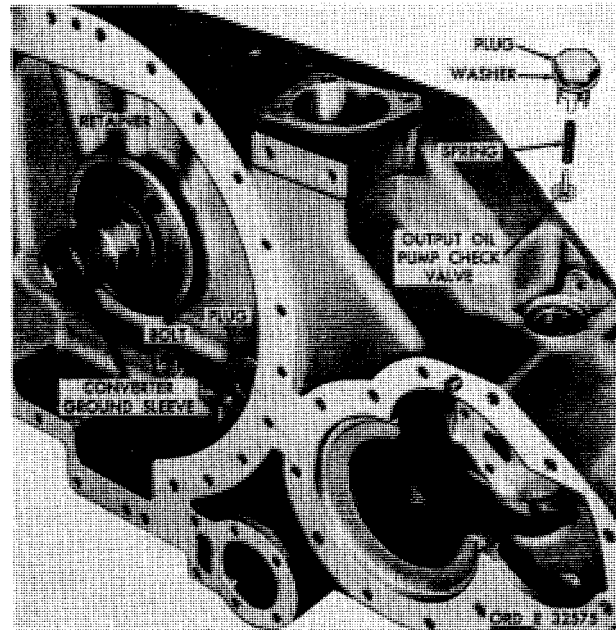

Figure 156. Torque converter housing and related parts
a. Using a 1-1/2-inch wrench, remove output oil pump check valve plug, washer, valve and spring (fig. 156).
b. Using a 9/16-inch wrench, remove five self-locking bolts retaining seal ring retainer (fig. 156). Remove the retainer.
c. Do not remove the torque converter ground sleeve unless replacement is necessary (fig. 156). If necessary, press the sleeve from the housing toward the front side.
a. Install any plugs in housing which were removed to aid in the cleaning of the torque converter housing (fig. 156).
b. If the converter ground sleeve was removed, install a new replacement ground sleeve (fig. 156). Press sleeve into housing until firmly seated, being sure that the bolt holes in the housing and sleeve are properly indexed.
c. Install the seal ring retainer and secure with five 3/8-16 self-locking bolts (fig. 156). Torque the bolts to 36-43 pound-feet.
d. Install output oil pump valve, spring, washer and plug (fig. 156).